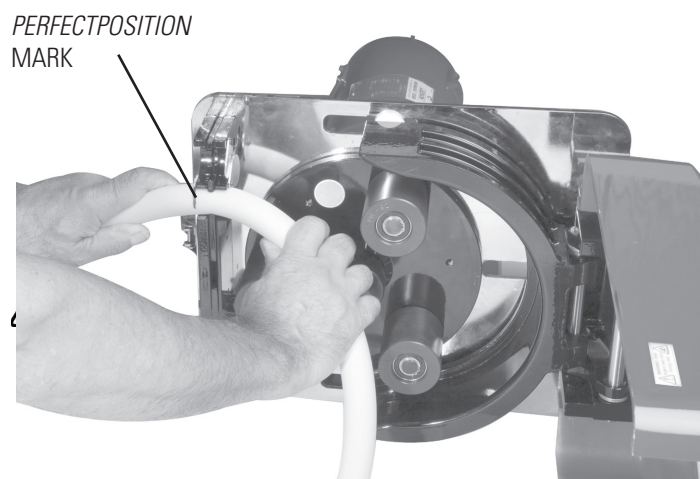

Figure 2-8. Tubing Retaining Pockets
3. Insert the tube in the appropriate upper tube retaining pocket (see Figure 2-10). Line up the "PERFECTPOSITION" placement marks printed on the tube with the outside edge of the retainer assembly (see Figure 2-8).